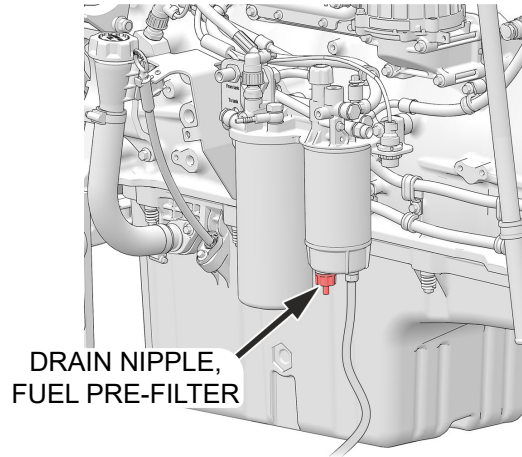

Figure 63. Fuel Prefilter Drain Nipple
2. Loosen the **drain nipple** (Figure 63) in the base of the **fuel prefilter** to begin draining.